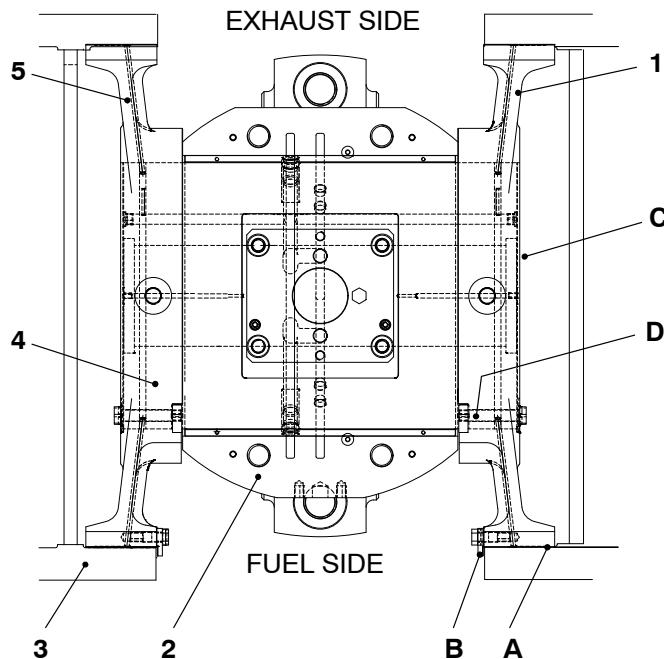
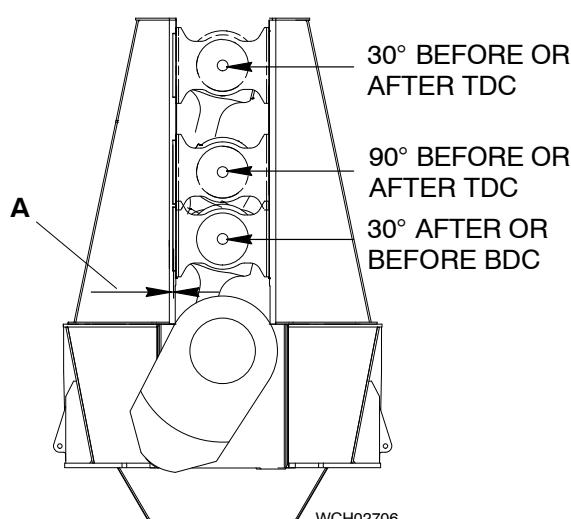

Fig. 1
Fig. 2
- 1) Measure and record the clearances shown in Fig. 1 and Fig. 2.
- 1) Make sure that the related crosshead pin (4) is in a position so that the guide shoes (1) and (5) touch the guide ways (3) (on the fuel side or exhaust side).
- 2) Measure the clearance (A) between the guide shoe (1) and the guide way 3.
Note: The clearance (A) is applicable for the full length of the guide way (3) and measured at the position shown in Fig. 2.